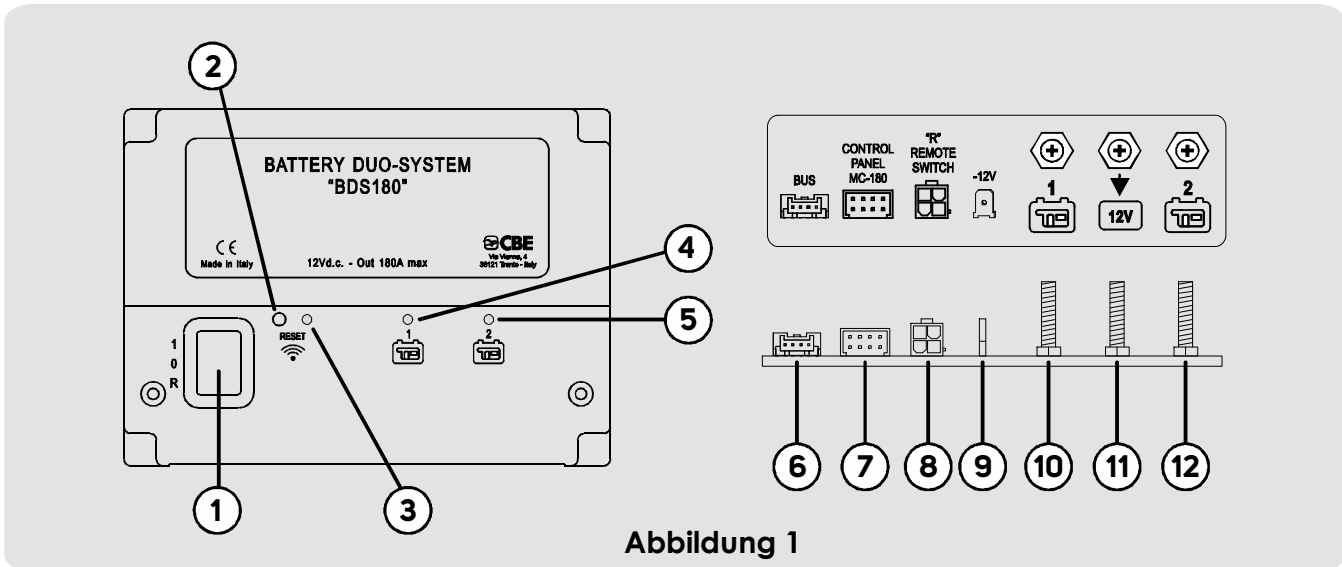

Abbildung 1
If you forgot the password that allows you to connect to the BDS180 via the APP, hold the “RESET” button (ref. 2 – figure 1) to reset the password to the default value (00000000).